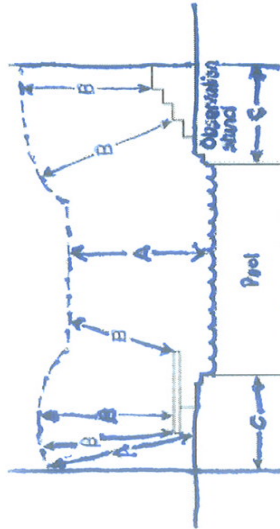

Figure 680.8 Clearances from Pool Structures.
(A) Power With respect to service drop conductors and open overhead wiring, swimming pool and similar installations shall comply with the minimum clearances given in Table 680.8 and illustrated in Figure 680.8.